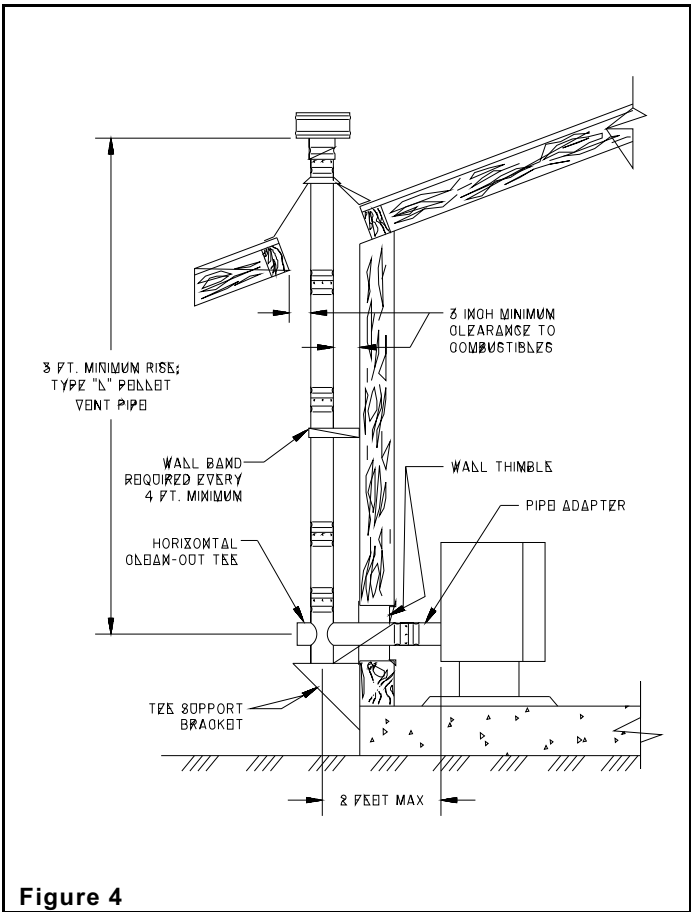

Figure 4
1. When exiting through the wall with your type L Pellet vent pipe, you may go straight out through a wall thimble. You must connect a pellet vent tee at this point and extend the vent pipe at least **3'** (three feet) vertically outside to provide good draft and allow the gases to exit. The tee must have a clean out cap for inspection and regular cleaning (**Figure 4**). Horizontal runs must be limited to **2'** (two feet). A wall band is required for every **4'** (four feet) minimum on a vertical run at an exterior wall.